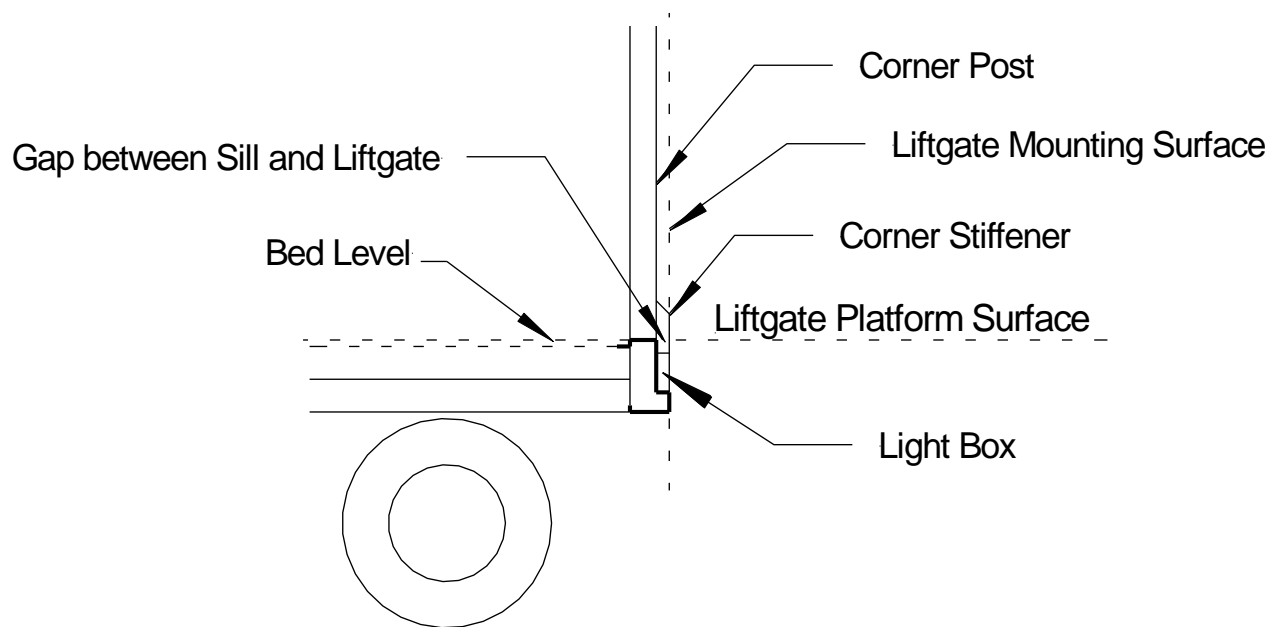

Fig. 4
1. Flush the sill: Some trucks or trailers may have configurations with irregular shaped sills, **Fig.4**. Liftgate mounting surface may NOT be flush with corner post. Some sills may be inset or have door gutters. All these situations are remedied with a process called sub-framing and/or flushing the sill.